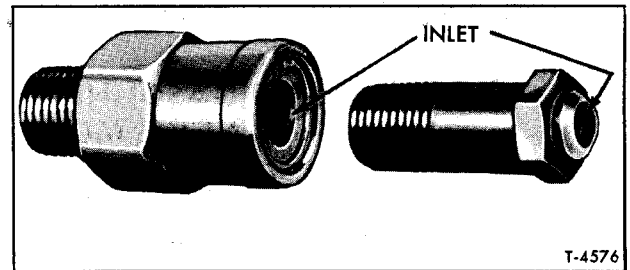

Figure 6—Crankcase Ventilation Valves
Ventilation valves on V6 engines cannot be disassembled but can be removed with wrench for inspection. Figure 6 shows the design of valves for each type of engine.
2. Make visual inspection of ventilation valves for accumulation of sludge or other matter at valve inlet (fig. 6).